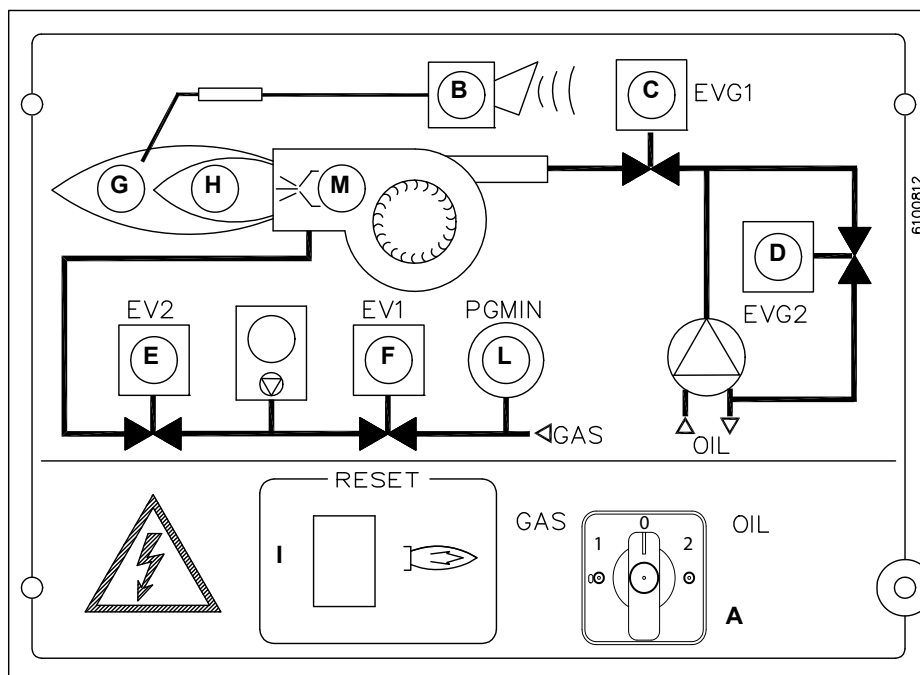
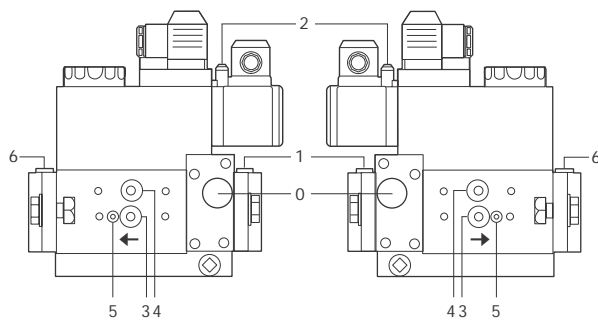

Fig. 24 - Burner control panel
Fig. 25
- Change the filter if the pressure difference between pressure connection 1 and 3 (Fig. 24-Fig. 25) is $\Delta p > 10$ mbar.
- Change the filter if the pressure difference between pressure connection 1 and 3 (Fig. 24-Fig. 25) is twice as high compared to the last check.